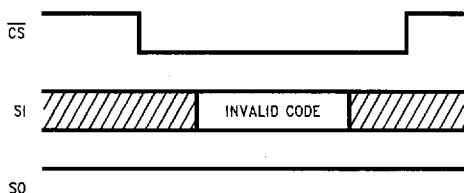

FIGURE 5. Invalid Op-Code
**INVALID OP-CODE:** After an invalid code is received, no data is shifted into the NM25C040, and the SO data output pin remains high impedance until new CS falling edge re-initializes the serial communication. See Figure 5.